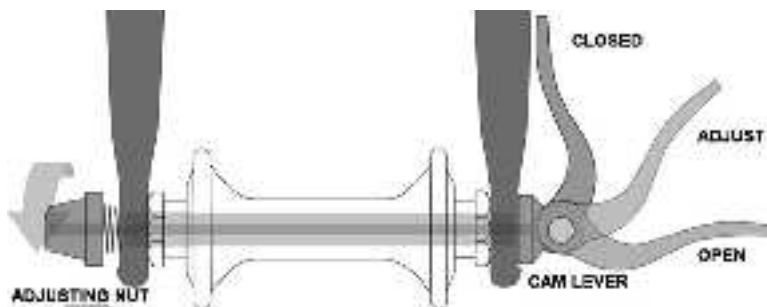
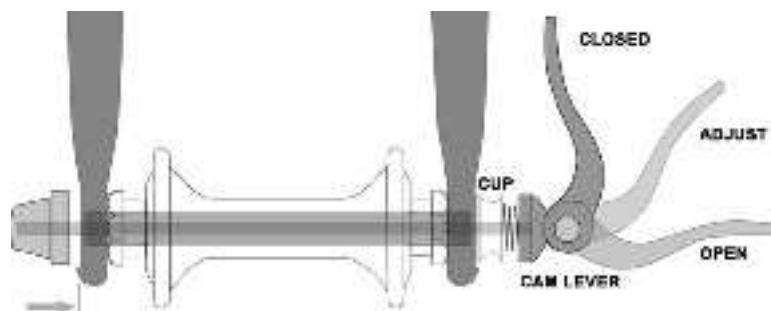

fig. 16
fig. 17
1. A hollow axle with a shaft (“skewer”) running through it which has an adjustable tension nut on one end and an over-center cam on the other (fig. 16, 17).
There are currently two types of over-center cam wheel retention mechanisms: the traditional over-center cam (fig. 16) and the cam-and-cup system (fig. 17). Both use an over-center cam action to clamp the bike's wheel in place.
#### Adjusting the Cam-and-Cup Mechanism (fig. 17)
(1) If your bike has cam action front wheel retention, move the cam lever from the locked or CLOSED position to the OPEN position (fig. 16, 17). If your bike has through bolt or bolt-on front wheel retention, loosen the fastener(s) a few turns counter-clockwise using an appropriate wrench, lock key or the integral lever.
(2) If your front fork has a clip-on type secondary retention device, disengage it. If your front fork has an integral secondary retention device, and a traditional cam action system (fig. 16) loosen the tension adjusting nut enough to allow removing the wheel from the dropouts. If your front wheel uses a cam-and-cup system, (fig. 17) squeeze the cup and cam lever together while removing the wheel. No rotation of any part is necessary with the cam-and-cup system.
(1) If your bike has cam action front wheel retention, move the cam lever so that it curves away from the wheel (fig. 17). This is the OPEN position. If your bike has through bolt or bolt-on front wheel retention, go to the next step.
(2) With the steering fork facing forward, insert the wheel between the fork blades so that the axle seats firmly at the top of the fork dropouts. The cam lever, if there is one, should be on the rider's left side of the bicycle (fig. 16, 17). If your bike has a clip-on type secondary retention device, engage it.
(3) If you have a traditional cam action mechanism: holding the cam lever in the ADJUST position with your right hand, tighten the tension adjusting nut with your left hand until it is finger tight against the fork dropout (fig. 16). If you have a cam-and-cup system: the nut and cup (fig. 17) will have snapped into the recessed area of the fork dropouts and no adjustment should be required.
(4) While pushing the wheel firmly to the top of the slots in the fork dropouts, and at the same time centering the wheel rim in the fork.
(a) With a cam action system, move the cam lever upwards and swing it into the CLOSED position (fig. 16, 17). The lever should now be parallel to the fork blade and curved toward the wheel. To apply enough clamping force, you should have to wrap your fingers around the fork blade for leverage, and the lever should leave a clear imprint in the palm of your hand.
Some bikes are equipped with a cam action seatpost binder. The seatpost cam action binder works exactly like the traditional wheel cam action fastener (6.A). While a cam action binder looks like a long bolt with a lever on one end and a nut on the other, the binder uses an over-center cam action to firmly clamp the seatpost (fig. 16).